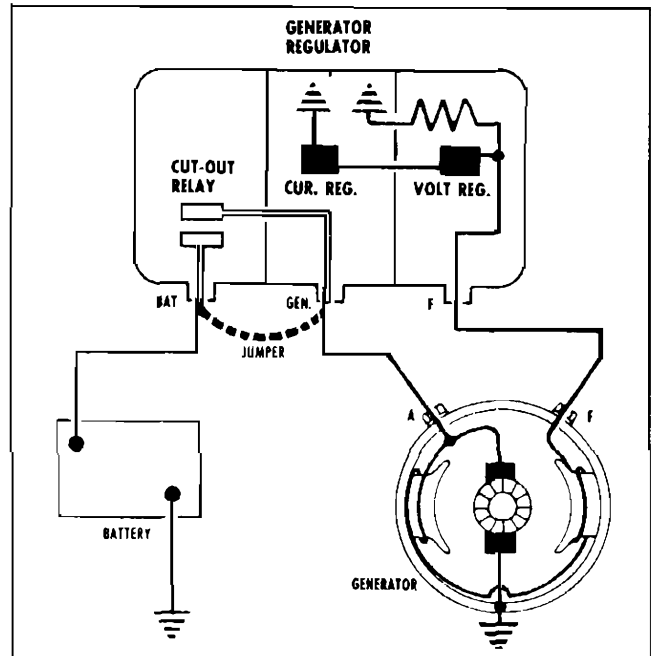

Fig. 11-19 Polarizing Generator
5. Polarize the generator by momentarily touching a jumper wire to the BAT and GEN terminals on regulator, engine not running (Fig. 11-19).